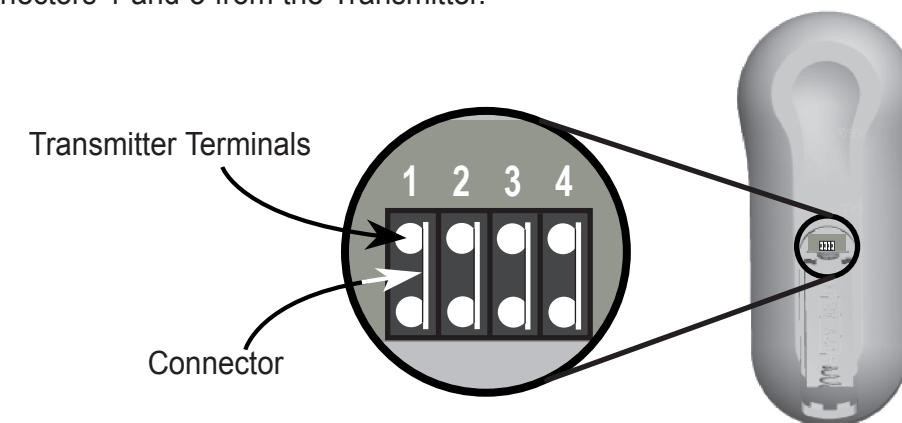

Figure 4 - Transmitter Terminals and Connector
- 5) For every Receiver Code Switch you turned Off, use a pair of needle-nosed pliers to *carefully* remove its corresponding Connector from the Transmitter Terminals. See Figure 4. For instance, if you turned Off Receiver Switches 1 and 3, then you would remove Connectors 1 and 3 from the Transmitter.